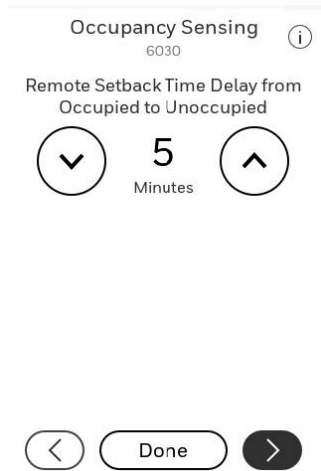

Fig. 120
4. ISU 6030 is shown unless **No Remote Setback** is selected for ISU 2240. Select a Remote Setback **Time Delay** (Figure 120). The Remote Setback Time Delay forces the thermostat to wait before switching from Occupied settings to the Standby settings. When set to 0 minutes, the thermostat will switch from settings to the Standby settings immediately when the room is unoccupied.